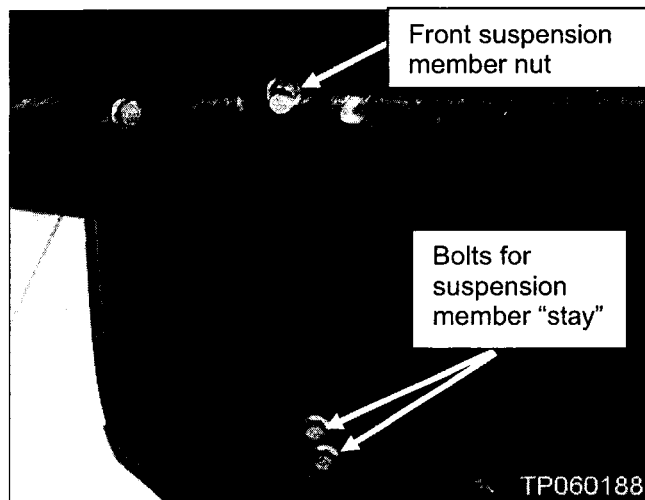

Figure 26
19. Remove the bolts and nut shown in Figure 26.